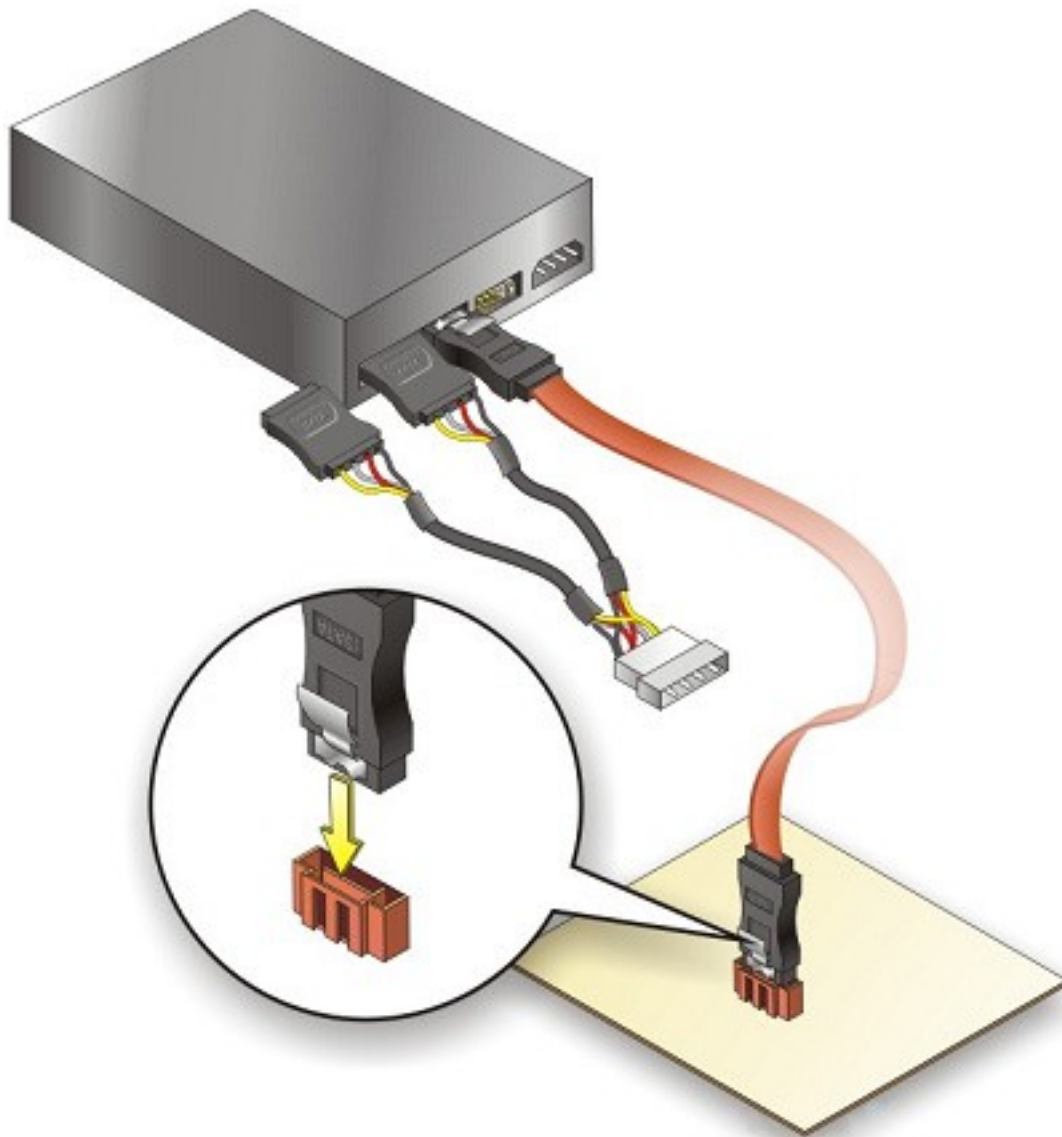

Figure 4-20: SATA Power Drive Connection
- Step 3:** **Connect the cable to the SATA disk.** Connect the connector on the other end of the cable to the connector at the back of the SATA drive. See **Figure 4-20**.
- Step 4:** **Connect the SATA power cable.** Connect the SATA power connector to the back of the SATA drive. See **Figure 4-20**.